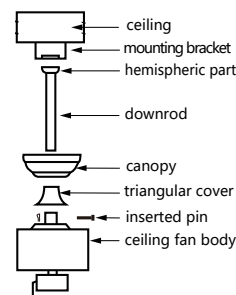

Figure 3
1. The downrod needs to pass through the canopy and the triangular cover. Insert the downrod into the hemispheric part and align the holes, then insert the inserted pin. Plug the R-shaped iron inserted pin into the hole of the inserted pin, fasten the screws on the side of the hemispheric part (See Figure 3).